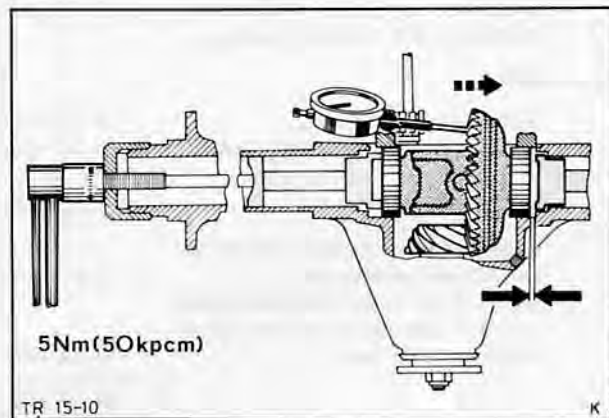

Fig. 87. Press differential housing away from drive pinion with spindle. Read value on dial indicator.
38. Slip both thrust buttons back into the axle tubes, Fig. 87. Place differential assembly with bearing cups in axle casing. Fit bearing caps. Tighten bolts and slacken them again, do them up very lightly with the wrench.